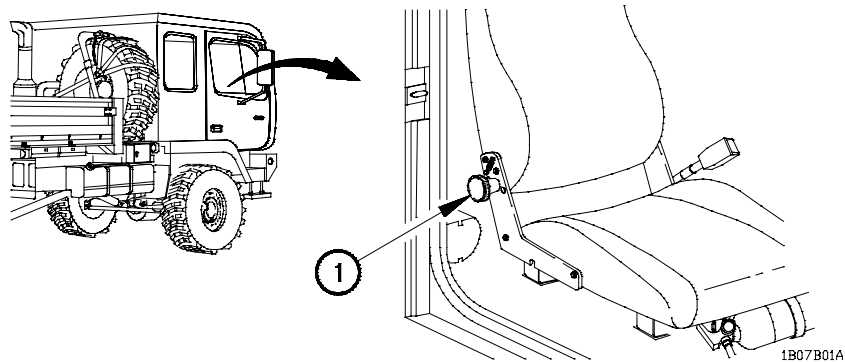

Figure 2-14. Right Passenger Seat Controls
- b. **Right Passenger Seat Control.** Figure 2-14 shows the control on the right passenger seat.